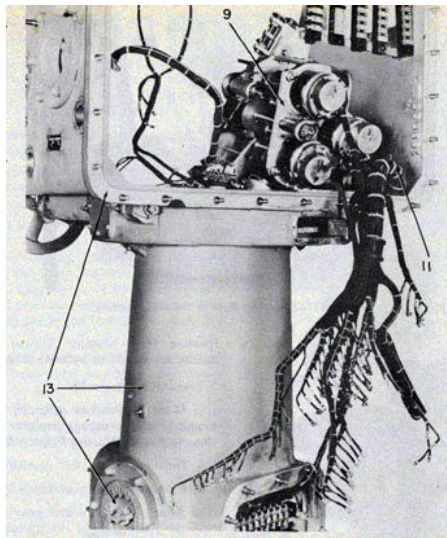

Figure 133-Replacing Transmitter and Main Cable.
9. Pick up the transmitter unit and place in the left side of the director case. See figure 133.
the transmitter frame after slipping the rubber bushing and clamp over the cable. See figure 133.
the bob cords with the machined surface of the access port. See figure 133.